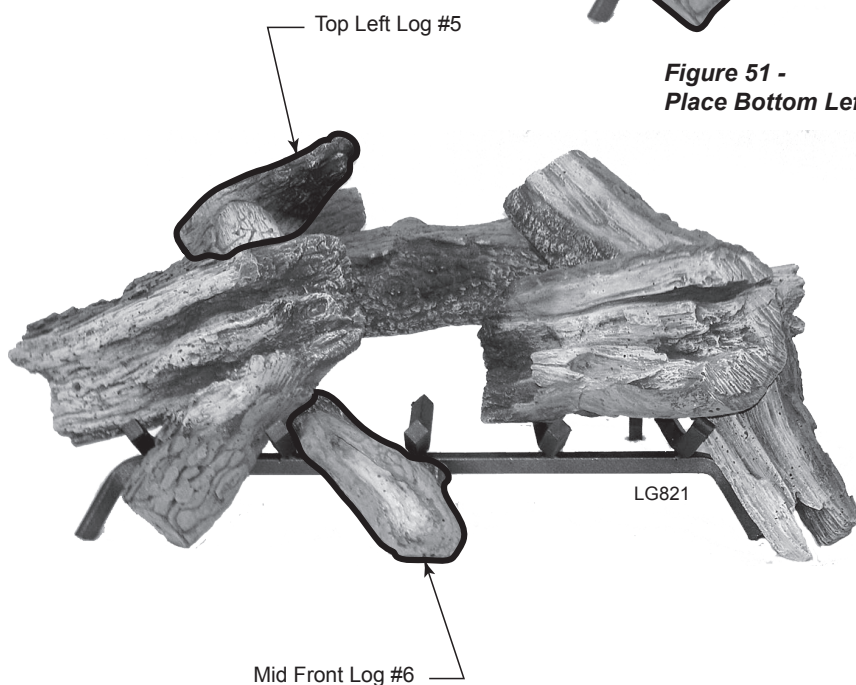

Figure 52 -
5. Place Top Left Log #5 behind Rear Log #1 on the notch on rear left of grate stand. *Figure 52*
6. Place Mid Front Log #6 on grate between center and middle left grate bars. Fit notch on back of log on the cross grate bar. *Figure 52*